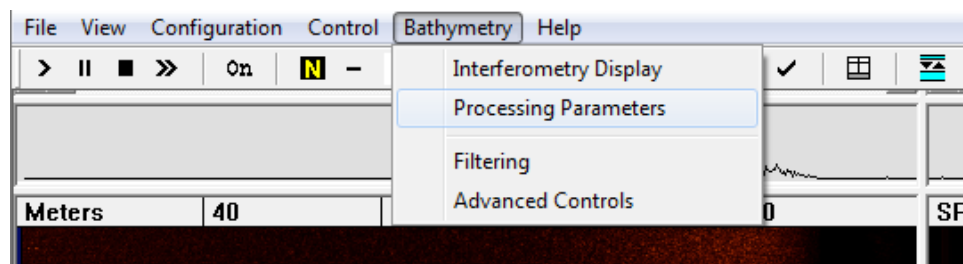
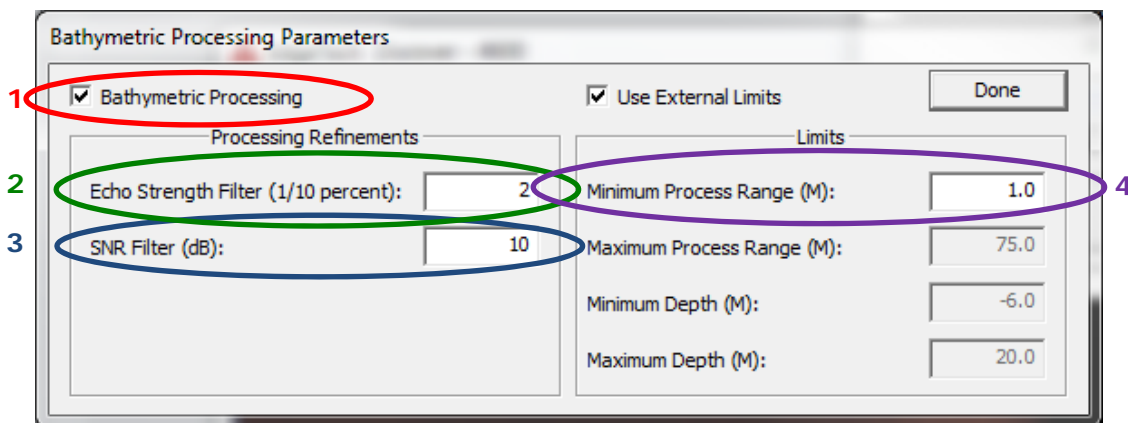

Figure 22: Discover 4600 Top Menu - Selecting Bathymetric Processing Parameters
Figure 23: Basic Bathymetry
8. To adjust the basic bathymetric processing parameters in DISCOVER, select **Bathymetry** from the *Top Menu* and then **Processing Parameters** (Figure 22 and Figure 23).
Here you can turn on/off the BATHYMETRIC PROCESSOR, adjust the echo strength (1/10%), SNR filter (dB), and Minimum Process Range (m). This window also allows you to specify if you would like to use/not use the external limits given by the 3rd Party Interface. The recommended parameters are shown in Figure 23 for a silty/sand type seafloor.